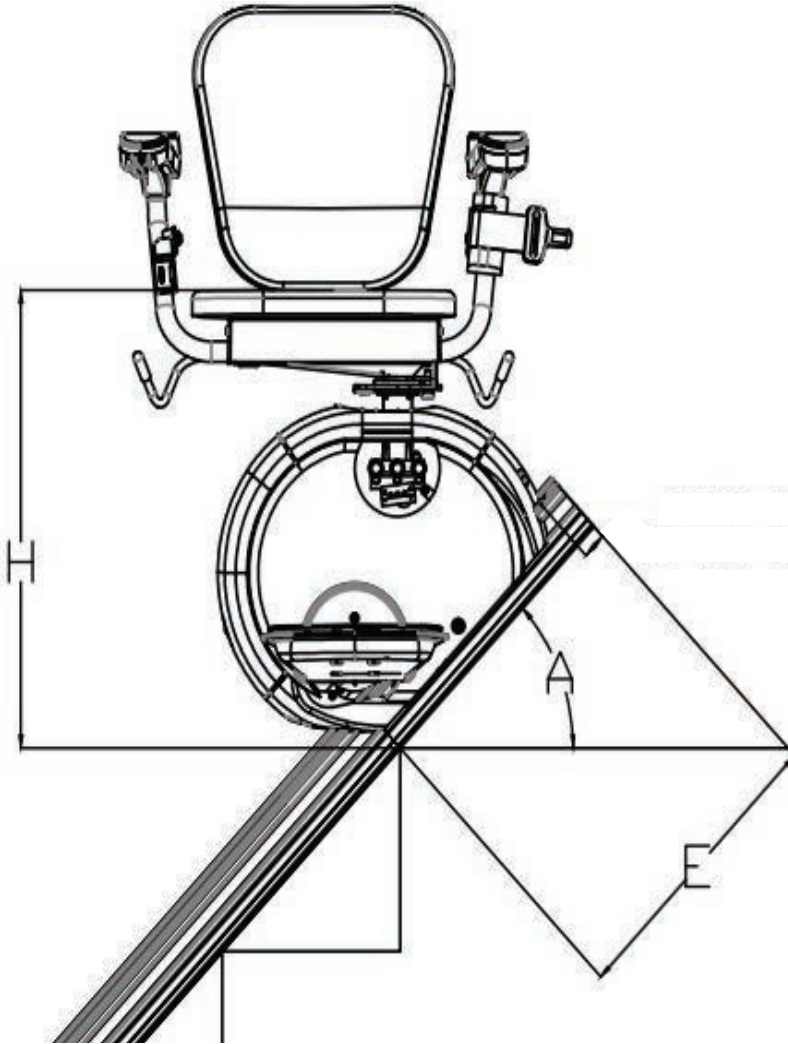

Figure 4: Top Rail Extension
- 2 Insert the splice bar into the lower T-slot on the front of one rail section. Tighten the two screws to secure it in place. See Figure 4 below.
- 3 Insert the splice bar into the lower T-slot on the back of the same rail section. Tighten the two screws to secure it in place. See Figure 4 below.
- 4 Slide the second rail section into place over the splice bars. Push the two sections firmly together ensuring there are no gaps in the rail. See Figure 4 below.